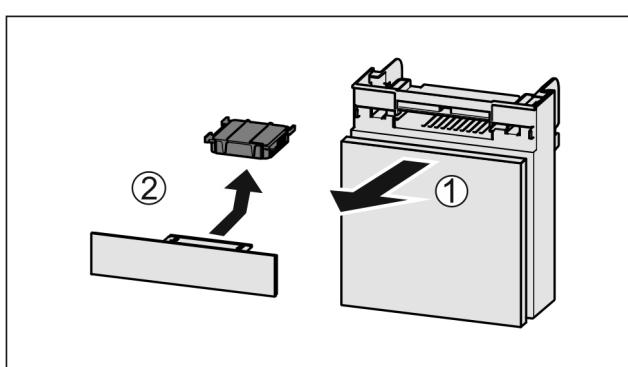

Fig. 37
- ▶ Pull out the compartment Fig. 37 (1).
- ▶ Remove the carbon filter Fig. 37 (2).